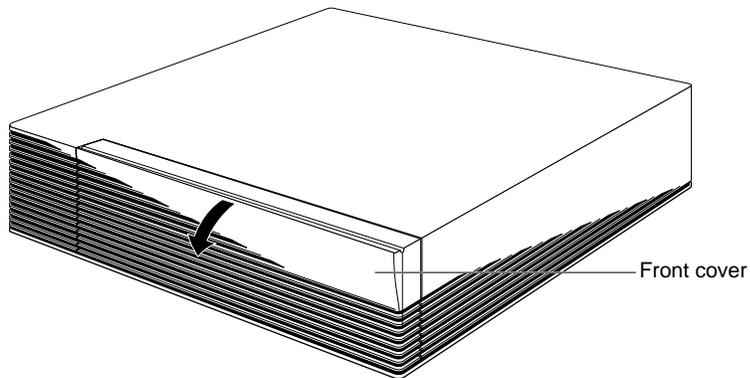

Figure 5-1 Removing the Front Cover
- Open the front cover by snapping it away from the top edge of the chassis and tipping it down, as shown in Figure 5-1.